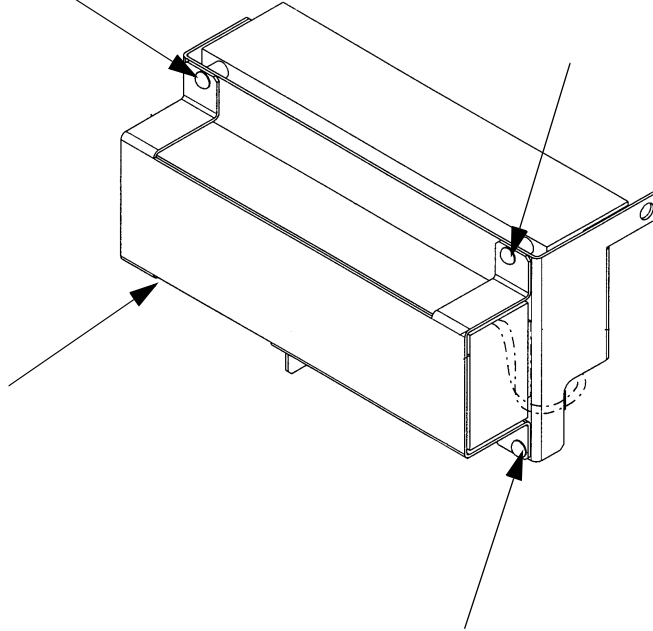

Figure 10 Fastening the battery.
- Loosen the battery terminals from the serial measuring board and remove the 4 screws that keeps the battery in place (see Figure 10).